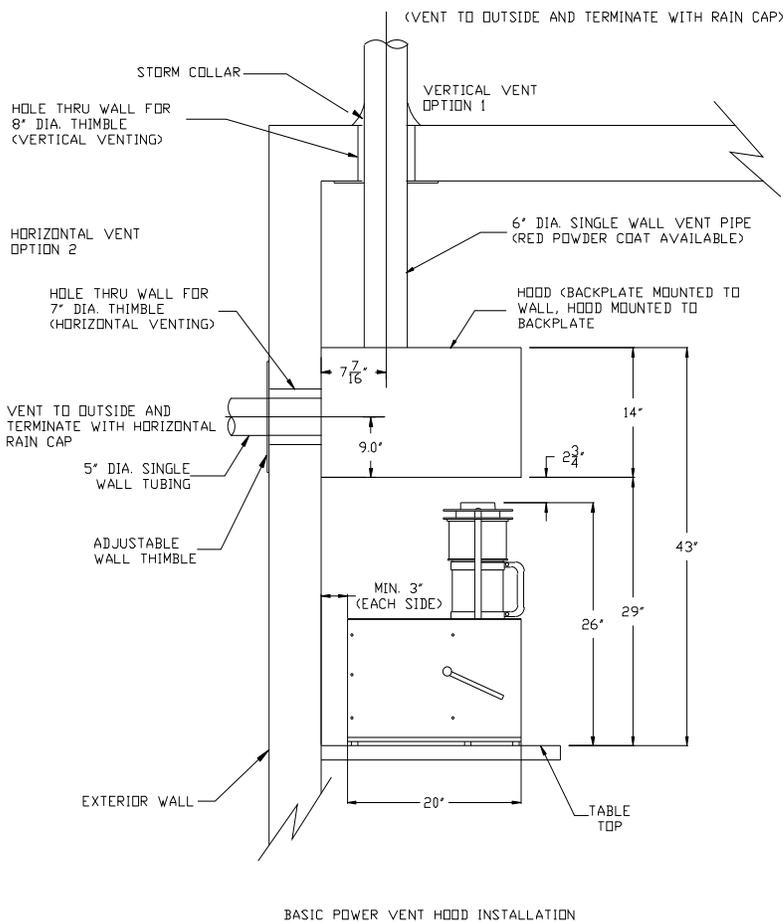

Figure 1
**Venting:** The roaster must be vented to the outside when used indoors to prevent the accumulation of emissions. Venting options include placing the roaster under an existing exhaust hood such as in a commercial kitchen, venting directly into a 4 inch steel vent pipe, or our vent hood. We recommend the dedicated vent hood shown in Figure 1. The vent hood will allow the roaster to be vented greater distances and will eliminate the possibility of back pressure and wind affecting the roaster caused by direct venting.
A vent hood, shown in Figure 1, can be ordered from sonofresco and provides many advantages. First, since it is a powered vent, the exhaust can be vented at greater distances without the risk of back-pressure into the roaster. Second, the exhaust can be tied into existing ducting without back-pressure issues, and third, strong wind pressure against the outside vent will not pose a problem to the roaster. The basic hood installation is shown in Figure 1. Please contact sonofresco for more details on venting the coffee roaster with a vent hood.